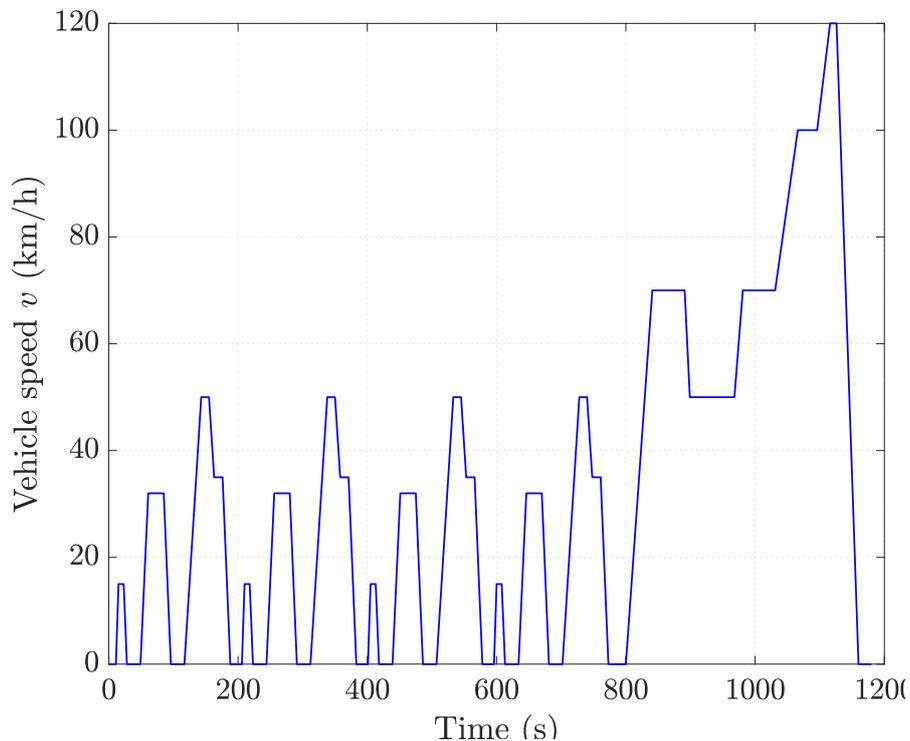

Figure 2: New European Driving Cycle (NEDC) velocity profile.
The traction motor and the converter for the vehicle will be selected based on the NEDC. Furthermore, the maximum performance of the motor is selected based on the required top speed and 0–100 km/h acceleration performance. In the NEDC, the velocity v of the vehicle changes as a function of time as shown in Figure 2. The profile lasts 1180 seconds.
1. Open MATLAB and create a script that loads the downloaded datafile `NEDC.mat` into the workspace and then plots the NEDC velocity profile v (see Figure 2). Include the figure in your report. You can use the command `whos` to sort out the name of the time-series variable inside the loaded datafile.